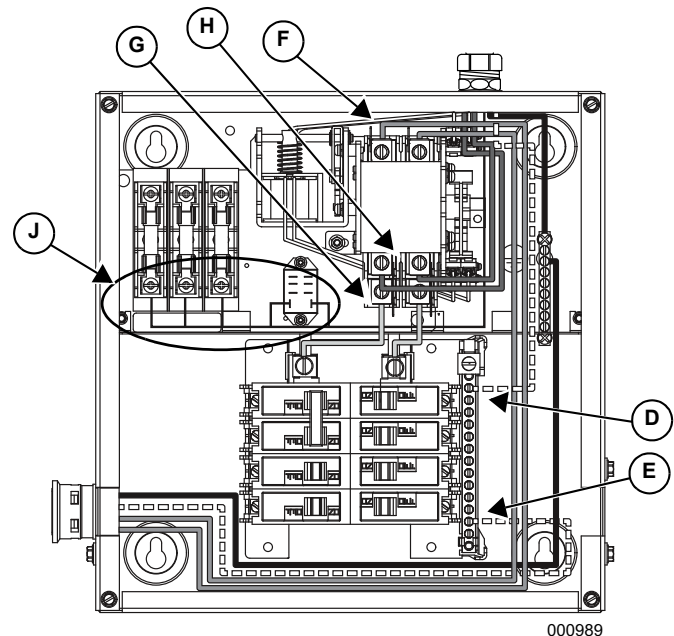

Figure 3-5.
8. Terminate the normal power neutral to the main lug on the neutral bar (D in Figure 3-5).
9. Terminate the neutral conductor from the generator power feeder onto the neutral terminal bar in the transfer switch (E in Figure 3-5).
10. Terminate the normal power feeder conductors to N1 and N2 on the transfer mechanism (F in Figure 3-5).
11. Terminate the panelboard feeder conductors to T1 and T2 on the transfer mechanism (G in Figure 3-5).
12. Terminate the generator feeder conductors to E1 and E2 on the transfer mechanism (H in Figure 3-5).
13. Terminate generator control wiring to the N1, N2, T1, 23 and 194 terminals in the transfer switch (J in Figure 3-5).